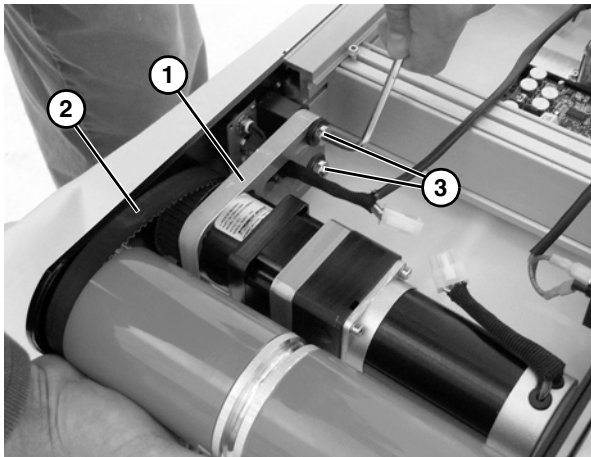

Figure 59
Move drive motor plate (**Figure 59, item 1**) to obtain 1/8 - 1/4" belt deflection at center of belt (**Figure 59, item 2**) with approximately 3-5 in-lb of pressure. Tighten two hex head screws (**Figure 59, item 3**) to 15 in-lb (1.6 Nm) to secure position.